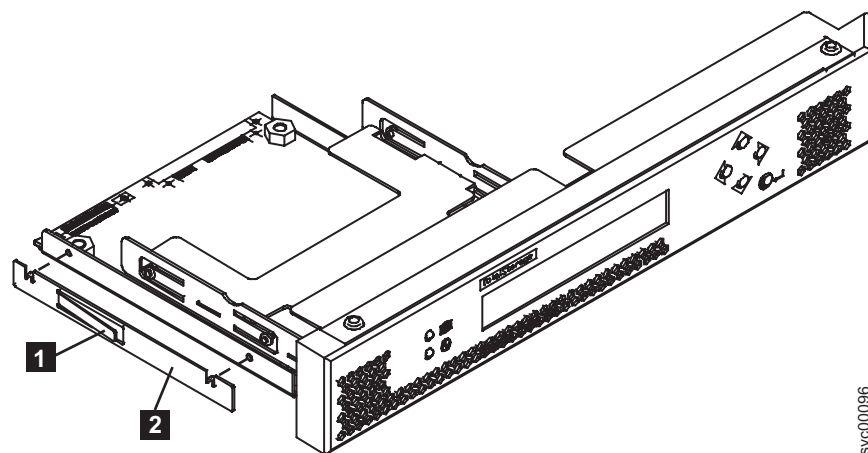

Figure 93. SAN Volume Controller 2145-8F2 or SAN Volume Controller 2145-8F4 service controller
1. Place the retention clip **2** over the locating holes on the left side of the service controller. See Figure 93.